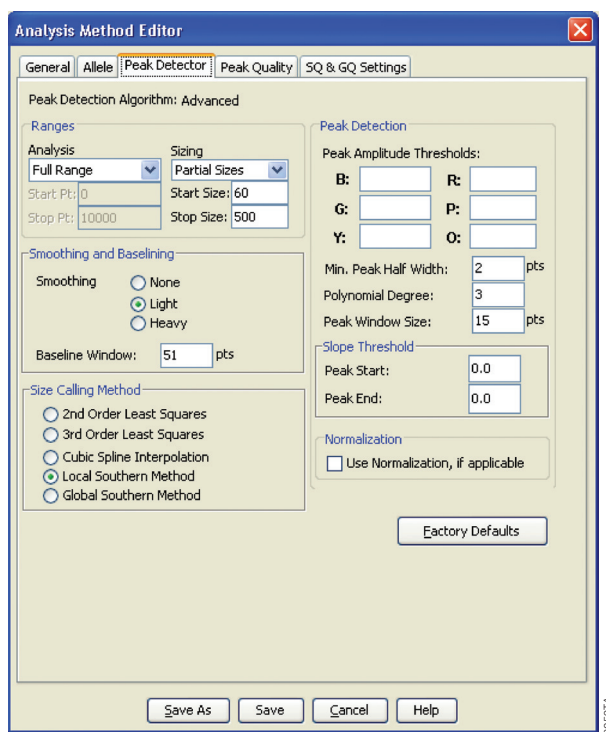

Figure 23. The GeneMapper® ID-X ‘Peak Detector’ tab.
9. Select the ‘Peak Detector’ tab (Figure 23). You will need to optimize these settings. In-house validation should be performed.
9. Select the 'Peak Detector' tab (Figure 23). You will need to optimize these settings. In-house validation should be performed.